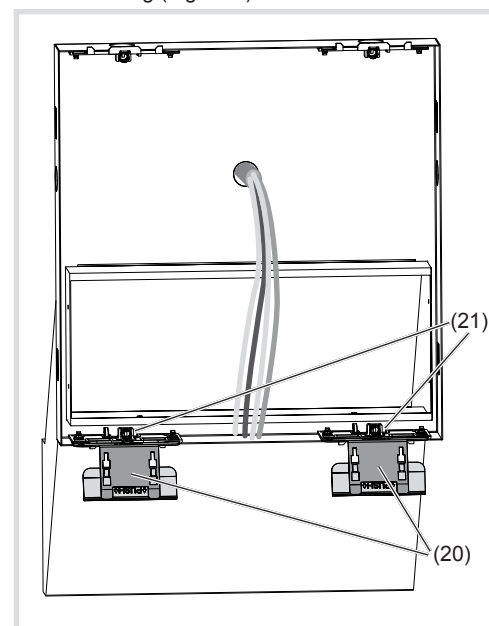

Figure 6: Inserted opening tools
(19) Support bracket of the fastening elements
- Insert both opening tools (20) into the mounting device of the lower fastening elements (21) on the housing (Figure 6).